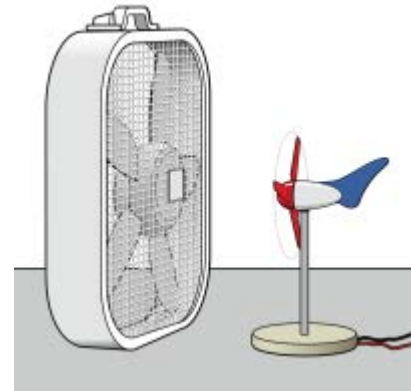

Figure 2
- b. Position the fan so the center of the fan is in line with the center of the hub of the turbine (see Figure 2). The fan should be about 15 cm from the turbine.